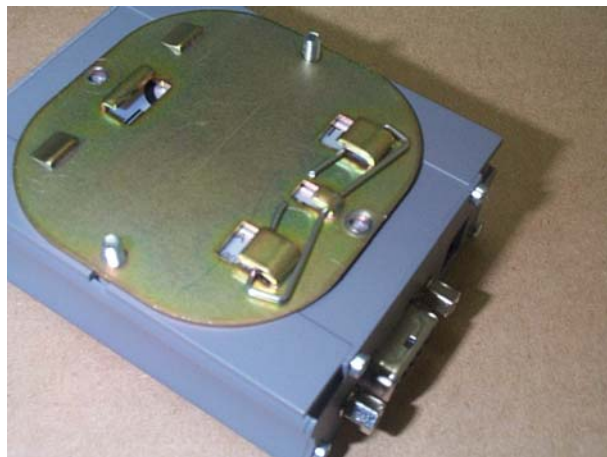

Fig.2a
- 2) Place the "Din Rail Mount" on bottom of Modem. Screws should pass through the hole of mount. (See fig. 2a & 2b). There are 4 ways to position the "Din Rail Mount".